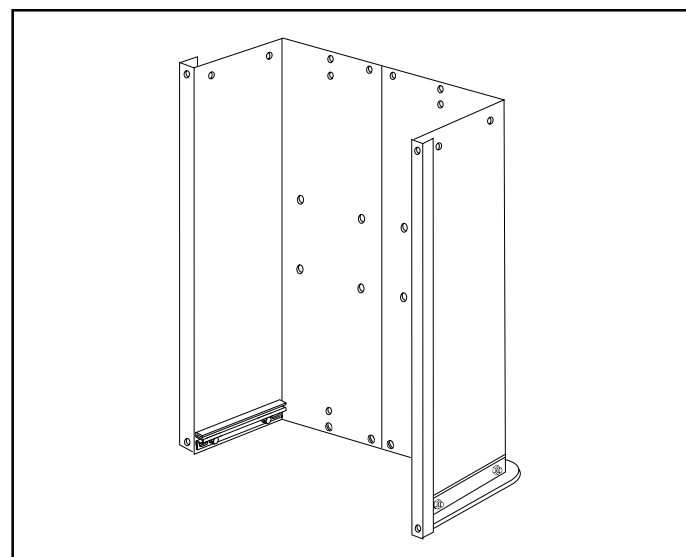

FIGURE 3
8. Carefully reverse the position of the cart so that it rests on the end with the tailgate reinforcement bracket, as shown in figure 3. Proceed with the assembly steps which follow.